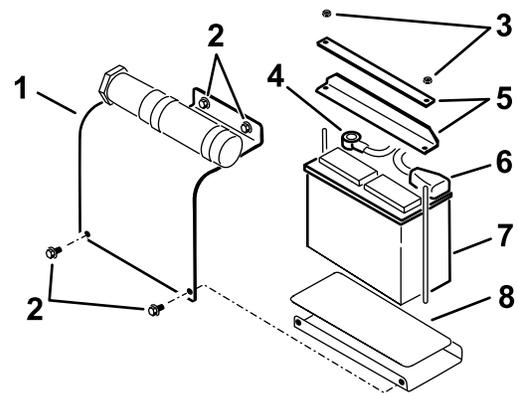

Figure 35
3. Remove the battery cover (Figure 35)
4. Remove the nuts and bars securing the battery (Figure 35).
5. Disconnect the negative (black) cable to the negative (-) battery post (Figure 35).
6. Disconnect the positive (red) cable to the positive (+) battery post (Figure 35).
1. Install the battery onto the platform (Figure 35).
2. Secure the battery in the chassis with the bars and nuts removed previously (Figure 35).
3. Using the fasteners previously removed, install the positive (red) battery cable to the positive (+) battery terminal (Figure 35).
5. Using the fasteners previously removed, install the negative (black) battery cable to the negative (-) battery terminal (Figure 35).
6. Install the battery cover (Figure 35).